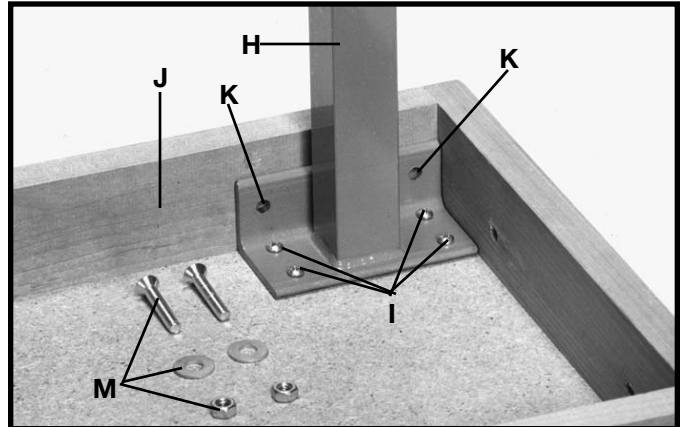
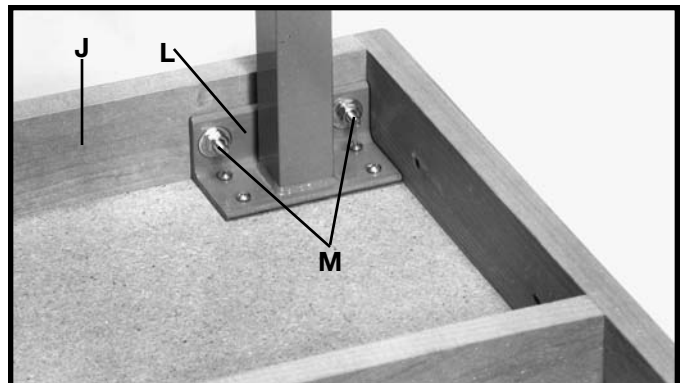

Fig. 98
Fig. 99
2. Figure 98 illustrates one of the legs (H) fastened to the bottom of the extension table with the four wood screws (I). Drill through the two holes (K) and through end piece (J) of the table with a 1/4" drill bit.
3. Fasten the leg bracket (L) Fig. 99, to the end piece (J) of the table using the two 1-1/2" long flat head Phillips screws, flat washers and hex nuts (M) Figs. 98 and 99. Fasten the remaining leg to the extension table in the same manner.
2. After the holes have been drilled in the edge of the front and rear extension table board, fasten both front and rear rail to table using the 1-1/2" flat head Phillips screws, flat washers, and hex nuts (M) Fig. 98.